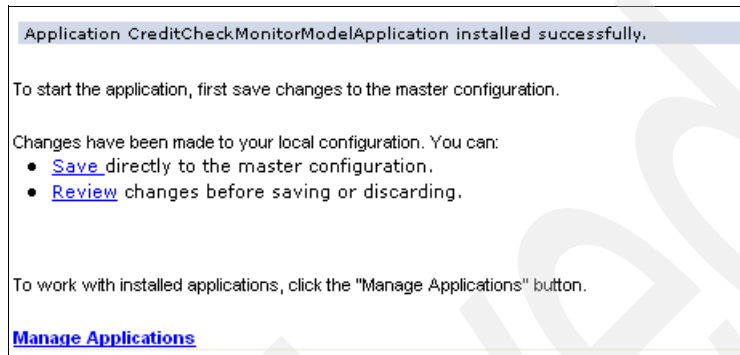

Figure 10-85 End of results panel
6. In the next panel (Figure 10-85), you see the results of the deployment. The results are a list of warning and information messages, the last of which should indicate successful installation. As long as they are all warnings and information messages, then the application is installed properly.